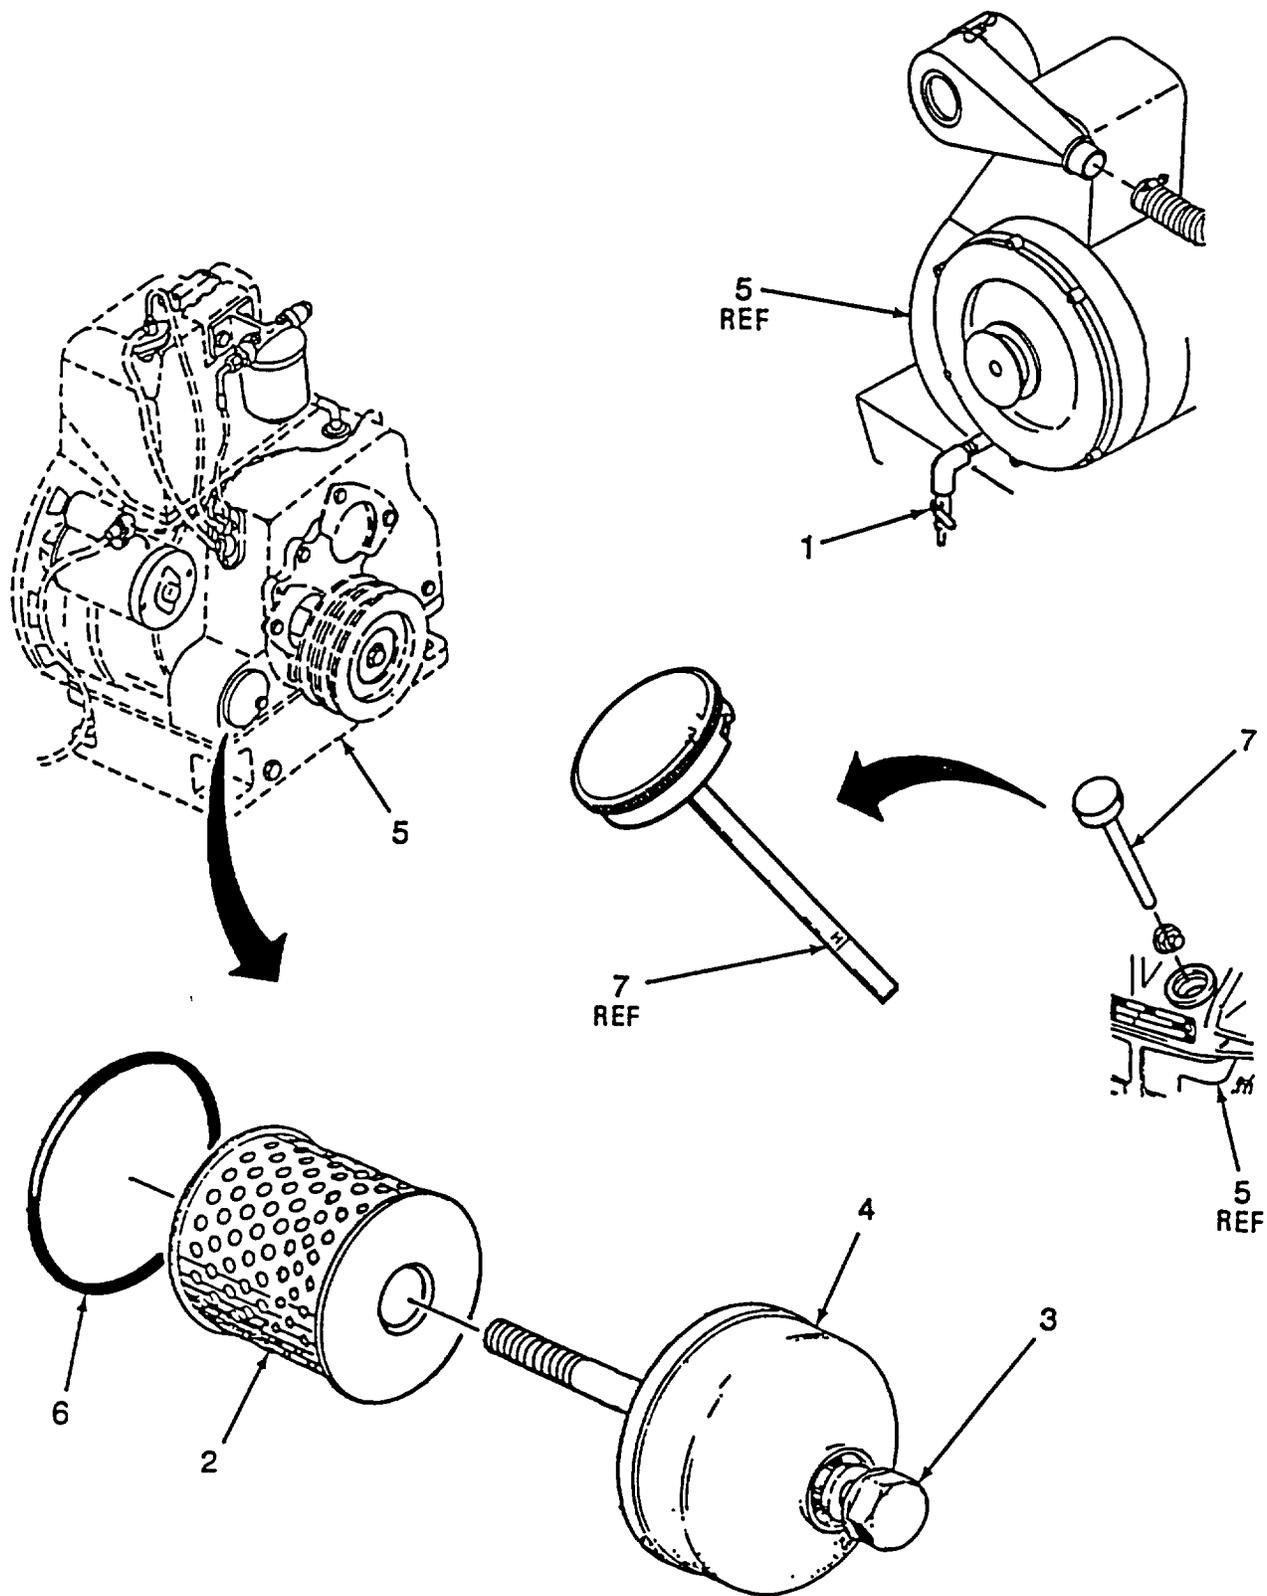

Figure 4-34. Oil Filter Assembly
- (1) Servicing. (Refer to Figure 4-34).
- (a) Place a suitable container under the drain valve (1).
- (b) Drain the diesel engine oil by opening drain valve (1) and drain it into a suitable container.
- (2) Removal.
- (a) Unscrew the center bolt (3) and withdraw the filter cover (4), with bolt (3), and filter element (2) from the engine crankcase (5).
- (b) Remove the o-ring (6) from the chamber of the engine crankcase (5). Discard ring (6).
- (c) Clean the filter cover (4) and chamber of the engine crankcase (5).